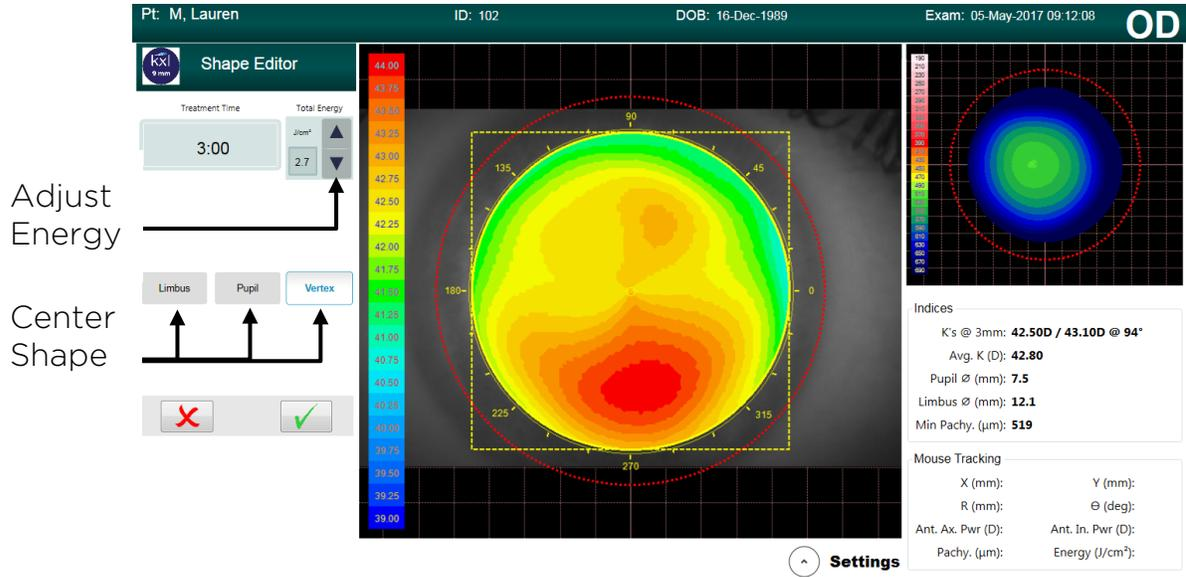

Figure 5-5. Adjust Energy for KXL Treatment
- The circle can then be centered on the limbus, pupil or vertex (if available) as shown in Figure 5-5. If no selection is made, the circle automatically centers around the vertex (for topography imports) or centers around the grid (for no topography imports).
- Adjust the energy dosage as shown in Figure 5-5. Treatment energy and irradiance limits are controlled by the KXL Treatment Activation Card.